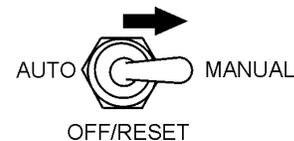

Figure 43. MPEC Control Switch (Manual Position)
2. Place the **MPEC control switch** in the **MANUAL** position to start the engine (Figure 43).